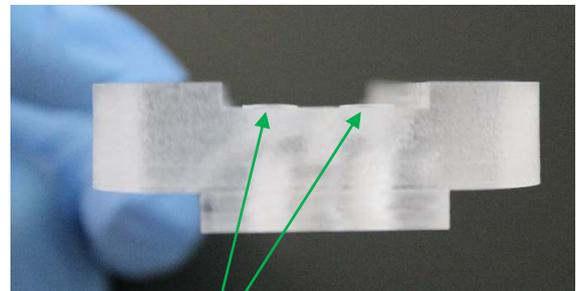

Figure 15: Circular seals pressed fully down into the manifold (only just protruding from the surface)
- Before reassembling with a new gasket component, ensure that the circular seals are bedded fully down in the ports on the manifold (Fig. 15).